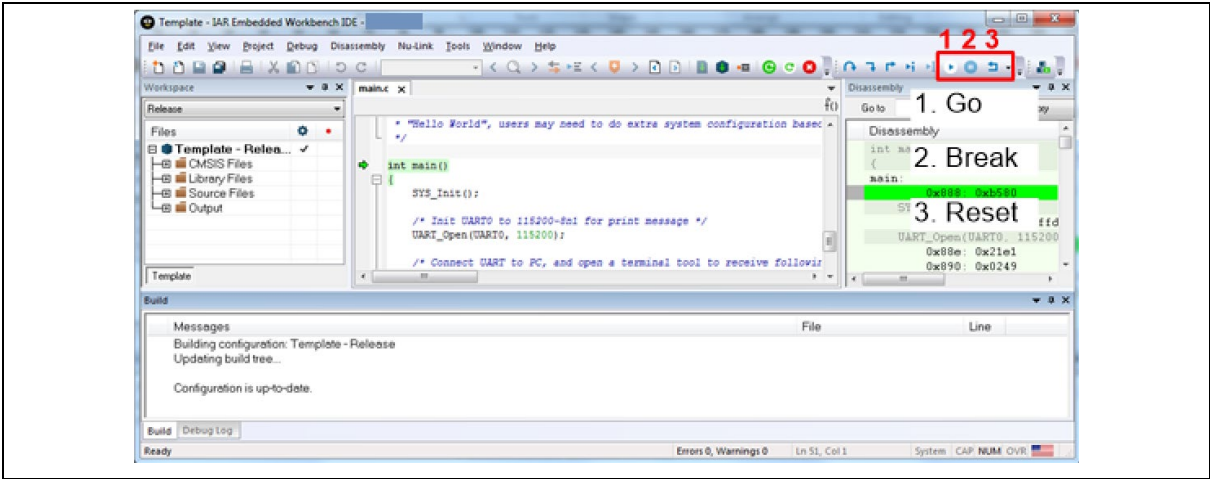
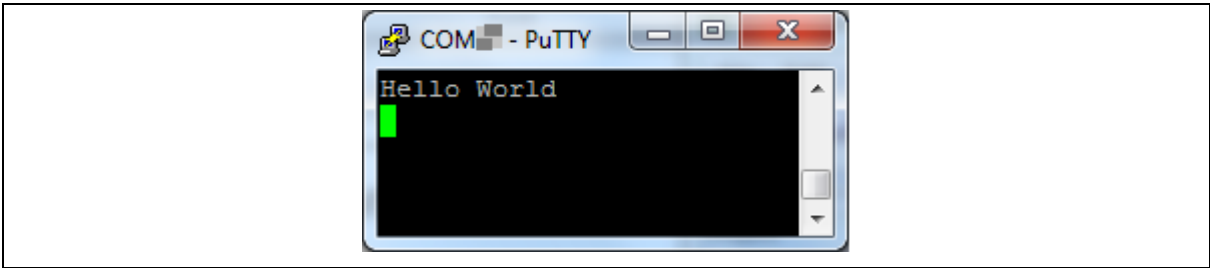

Figure 4-15 IAR EWARM Debug Mode
Figure 4-16 Debug Message on Serial Port Terminal Windows
4. Figure 4-15 shows the debug mode under IAR EWARN. Click “Go” and the debug message will be printed out as shown in Figure 4-16. User can debug the project under debug mode by checking source code, assembly language, peripherals’ registers, and setting breakpoint, step run, value monitor, etc.